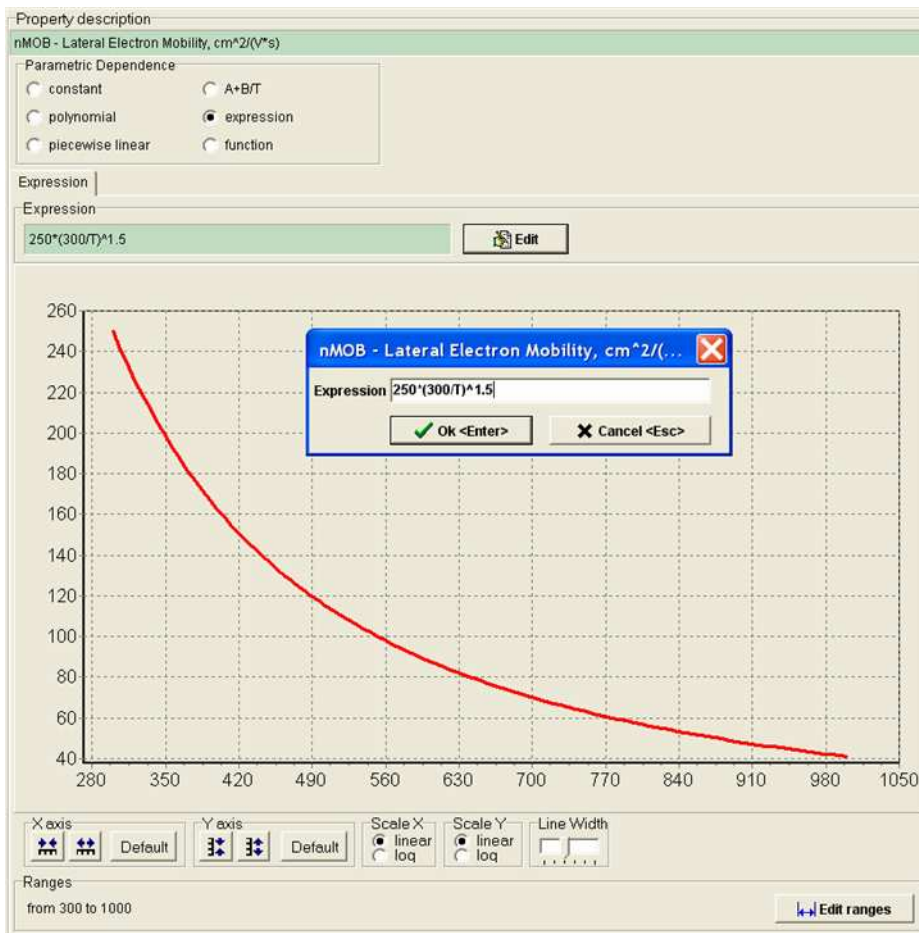

Fig. 51
- **Expression** (see Fig. 51) allows the user to specify a simple (expressed by a single formula) temperature dependence of the selected material characteristic. In this mode the *Property Description* section contains the following items: